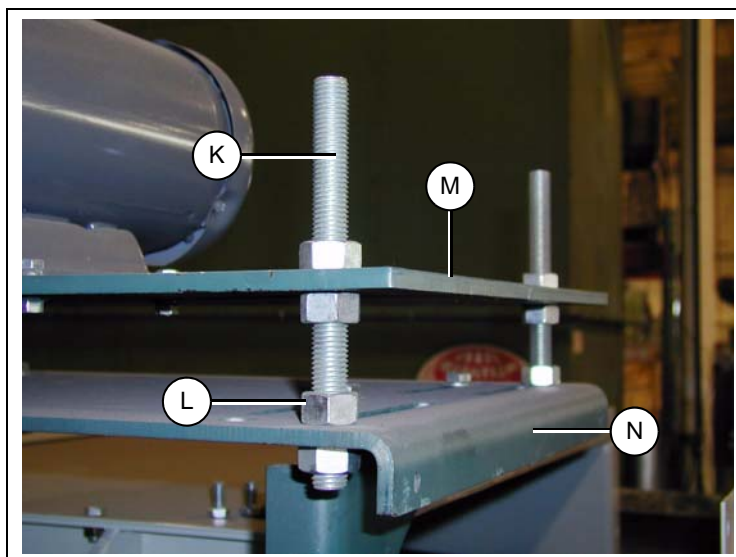

Figure 5J
9. Thread nuts onto jack screws. Place bolt through motor mount bracket and base plate. Thread another nut onto jack screws to secure. Repeat for three (3) remaining jack screws.
10. Thread another nut onto all four (4) jack screws. Place adjustment plate onto jack screws. Thread another nut onto each jack screw to secure adjustment plate. Use these nuts to adjust the motor height.
11. Attach the motor to the adjustment plate using bolts and lock nuts. *(See Figure 5J.)*